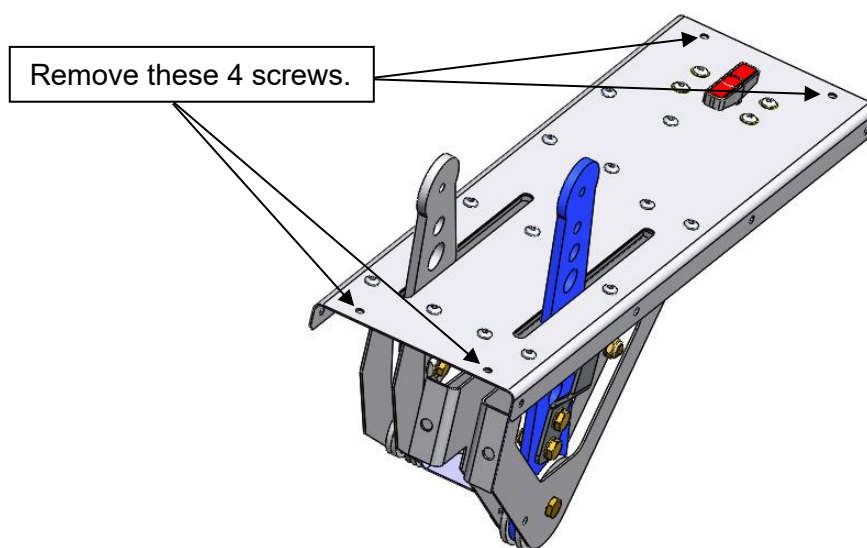

Figure 12
Step 5: Once the side inspection panel has been removed, remove the 4 screws that hold the throttle quadrant in place, refer to Figure 12. This is to allow the throttle quadrant to be lifted and tilted for better access to the components beneath. Be careful not to pull the brake line off when you lift the throttle quadrant. The brake line should be long enough to remain attached during the entire throttle cable replacement process.